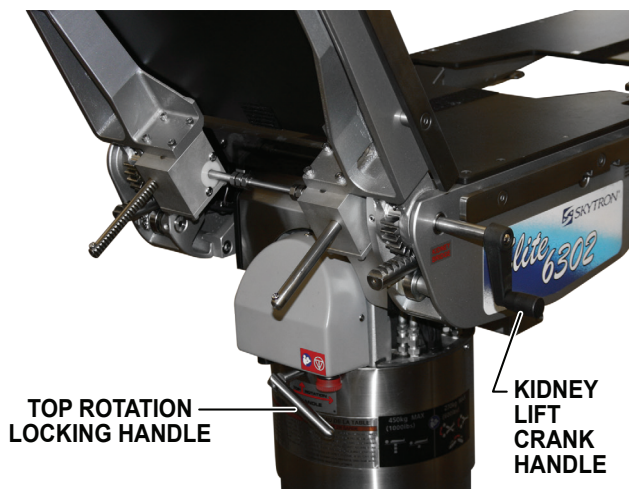

Figure 4.3. Table Top Rotation Locking and Kidney Lift Crank Handles
11. Ensure the table top rotation locking handle is present and secures the table top from excessive movement when tightened (Figure 4-3).